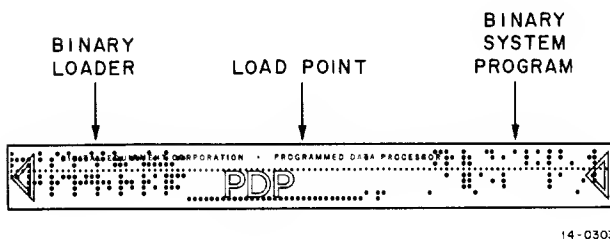

Figure 8-6 Paper Tape Load Point
1. Place the system tape in the paper tape reader and turn the reader ON. The tape must be positioned with the leader/trailer code between the Binary Loader and the Binary System Program over the reading head (Figure 8-6).